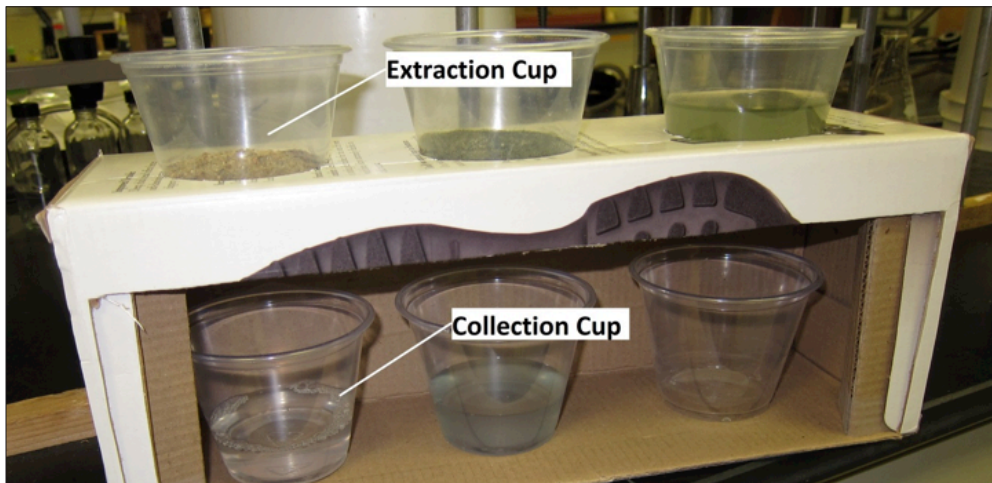

Figure 3: Cardboard extraction rack setup.
- c. Make an extraction rack: using scissors make holes in the box so that the extraction cups can be held above collection cups (do not make the holes too big or the cups will fall through). Depending on the size of the cups and boxes this may require several boxes. See Figure 3 for an example.